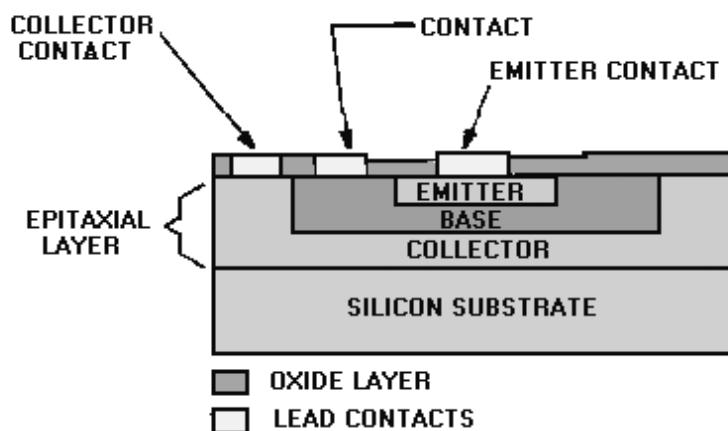

Figure 1-13.—Planar-epitaxial transistor.
**EPIТАХІАЛЬ МЕТОД.**—The EPITAXIAL process involves depositing a very thin layer of silicon to form a uniformly doped crystalline region (epitaxial layer) on the substrate. Components are produced by diffusing appropriate materials into the epitaxial layer in the same way as the planar-diffusion method. When planar-diffusion and epitaxial techniques are combined, the component characteristics are improved because of the uniformity of doping in the epitaxial layer. A cross section of a typical planar-epitaxial transistor is shown in figure 1-13. Note that the component parts do not penetrate the substrate as they did in the planar-diffused transistor.